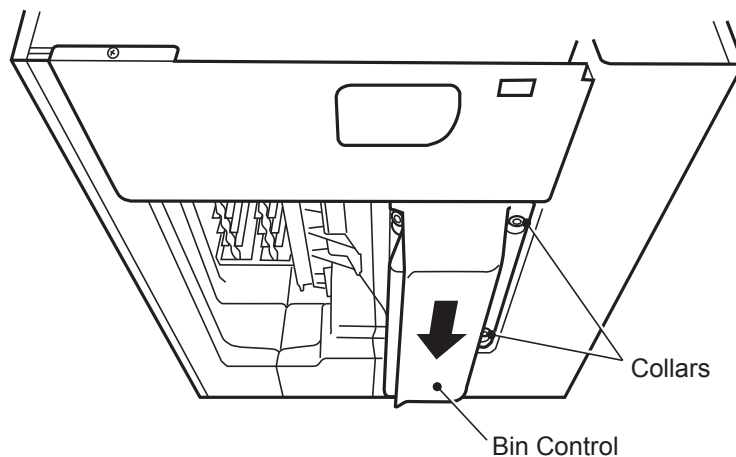

Fig. 5
- 8) While pulling up the bin control lead, hook the bin control on the right side interior wall. Then push the bin control up against the bottom of the unit, and slide to the back until it snaps in place. Make sure the slotted holes at the right side of the bin control are securely placed on the collars at the bottom of the unit. See Fig. 5.